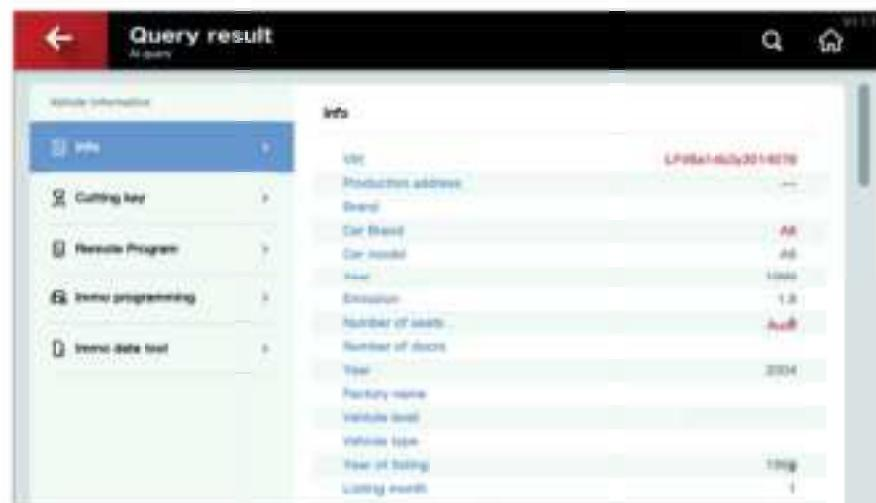

Fig.4.15
**AI query:** Scan the VIN code of the vehicle, it's able to automatically show the operation options like detailed information, cutting key, remote program, immo programming and immo data tool. See Fig. 4.15